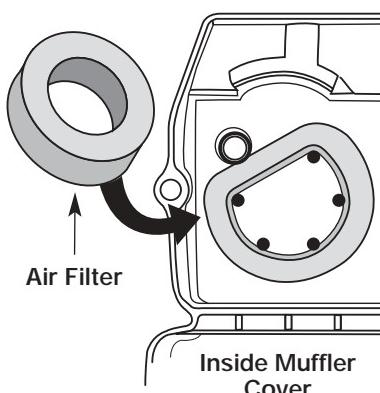

Figure 22
2. Turn cover over and look inside to locate the air filter. Remove the air filter from inside the air filter/muffler cover. See Figure 22.
- Replace the air filter inside the air filter/muffler cover. See Figure 22.